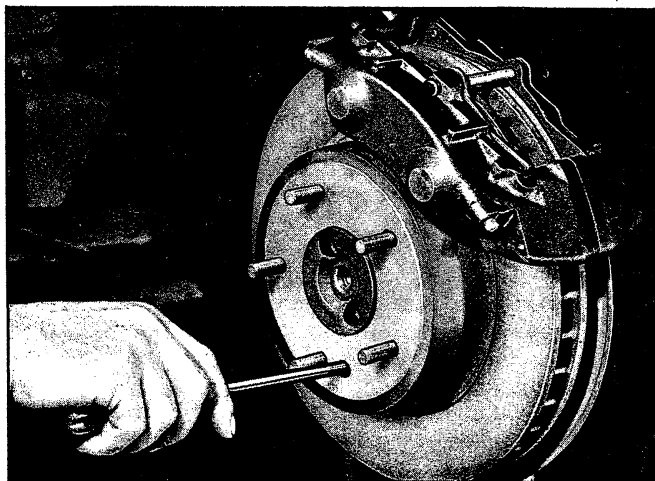

Fig. 37—Adjusting Parking Brake Shoes
5. Insert an adjusting tool or screw driver through the hole in the disc and tighten the adjusting screw by moving your hand away from the floor on both the left and right sides (fig. 37).
6. Tighten until the disc will not move, then back off ten (10) notches.
7. Apply the parking brake four (4) notches from inside the car.